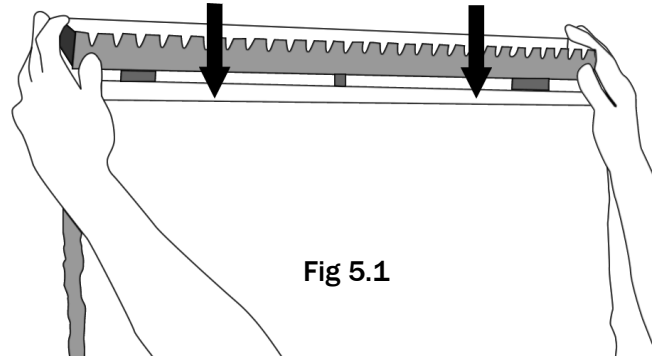

Fig 5.1
1. Gently lift the disperser (E) of the mounted stone from behind the Pocket Clips (M) and remove each Pocket Clip out of the Wall bracket pocket (B). Slide the tabs on the disperser (E) behind the stone and into the bracket pockets on the wall bracket (B) (Fig 5.1). The disperser (E) should sit evenly along the angle on the stone edge. Press the disperser (E) down firmly to ensure there are no gaps between it and the stone. Center the Disperser (E) from left to right on the stone. You will place the Pocket Clips in the pockets of the next wall bracket for the stone you will mount. Remember to keep the pockets clips should you need to install your fountain in a new location.